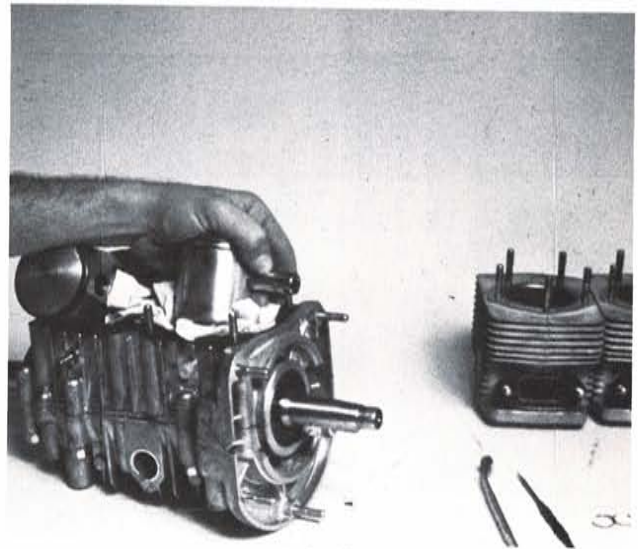

FIG. 20
19. Pry out circlips from ends of wrist pin. Insert a drift in wrist pin hole, and lightly tap out wrist pin to detach piston and needle bearings from connecting rods. (Fig. 20)